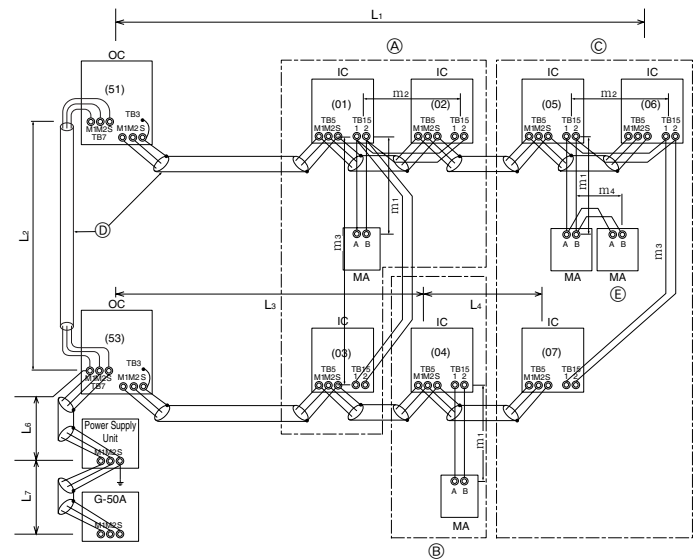

Fig. 6-3
- MA Remote Controller (Fig. 6-3)